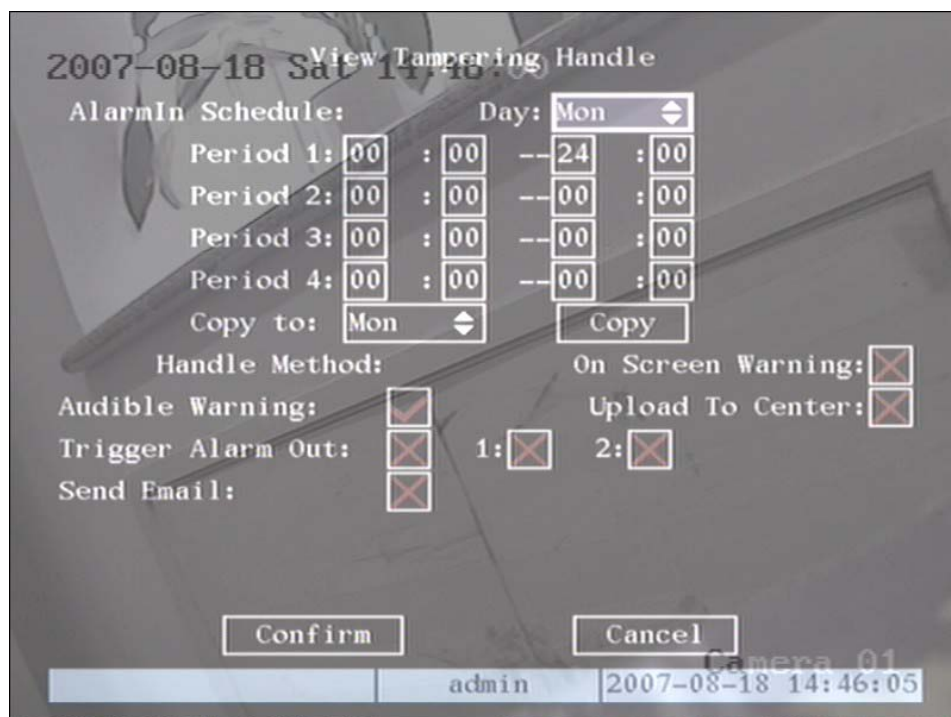

Fig 5.15 View tampering handle setup
Step 5: View tampering alarm setup In “Advanced settings” menu, move “Active Frame” to “Policy” button, press **【ENTER】** key to enter into “View Tampering Handle” menu shown as fig 5.15